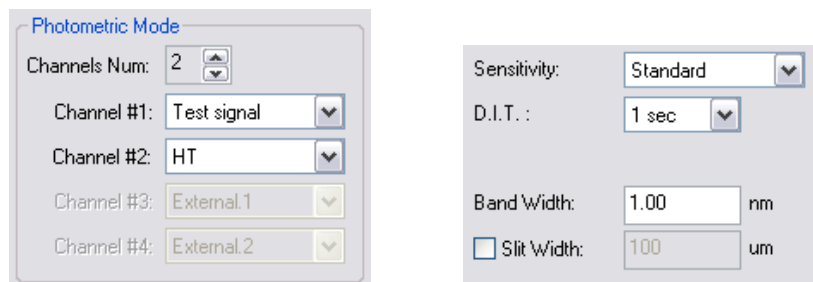

Figure. 4.14 Setting measurement parameters (test signal check)
- (1) Select the [Parameters...]/ [General] command from the [Measure] menu, and designate the measurement parameters as shown in Fig. 4.14.